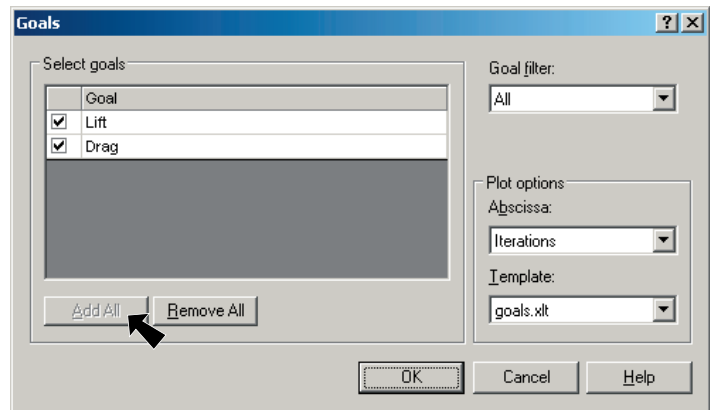

Fig. 30
Step 2. Click **Add All** and OK, Fig. 30.